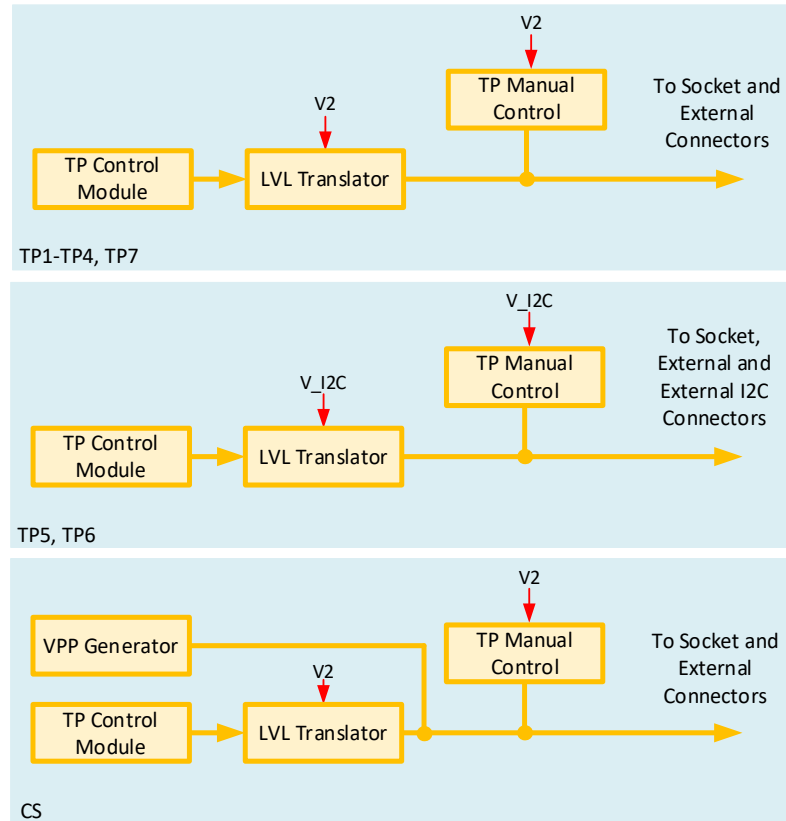

Figure 5. TP Control Structure
Figure 5 describes the TP control structure and shows the voltage reference to any TP. All TPs, except TP5 and TP6, belong to the V2 linear power channel. TP5 and TP6 belong to the V_I²C linear channel and can be used both as I²C TPs or state control TPs. The Chip Select (CS) TP belongs to V2 and has a VPP option available that can generate a higher voltage than V_{DD} in programming procedures.